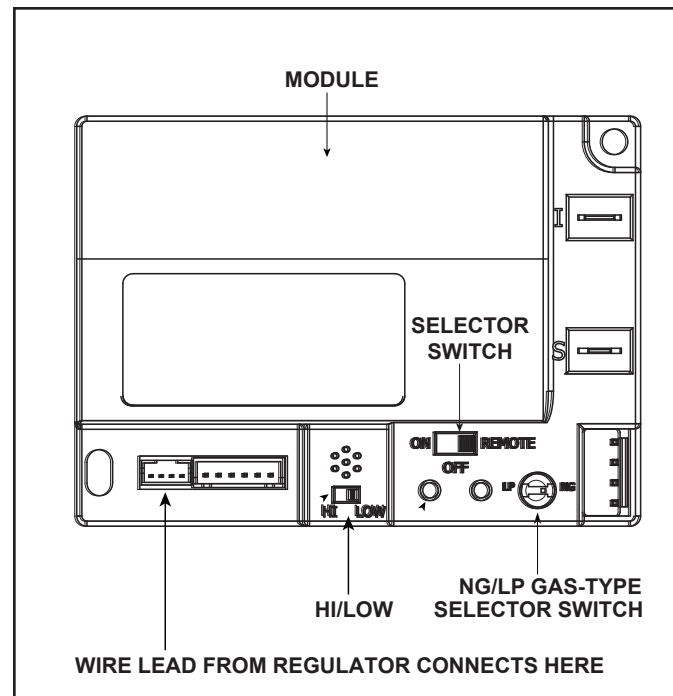

Figure 3.3 Control Module
- Put module switch in the OFF position (Figure 3.3) to disable all fireplace controls or;
Heat output can be controlled using the HI/LOW setting on the control module. See Figure 3.3.
1. The control module has an ON/OFF/REMOTE selector switch that must be set. See Figure 3.3.
2. With the module in REMOTE mode, the flame output can be adjusted with the HI/LO selector switch on the module. See Figure 3.3. Note that the control module will always ignite the fireplace on HI and remain so for the initial 10 seconds of operation. If the HI/LO is switched to the LO position, the flame output will automatically drop to the lowest setting after the flame has been established for 10 seconds. After this 10-second period, the flame can be adjusted from HI to LO with the switch.